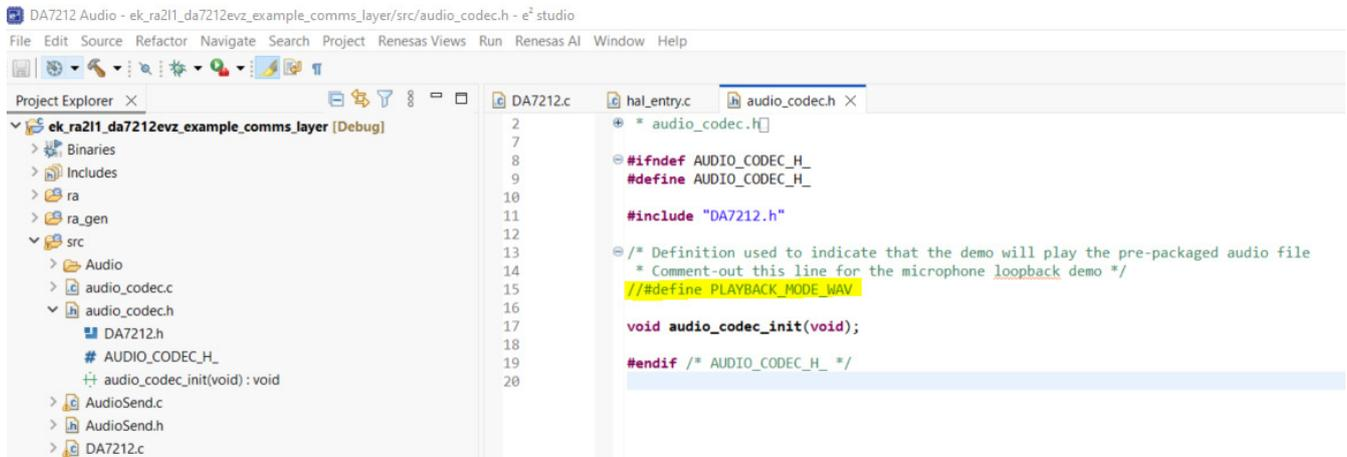

Figure 23. Sample Code audio\_codec.h File
2. Open the sample code project in e2 studio. Go to the **audio\_codec.h** file and comment out the line **//#define PLAYBACK\_MODE\_WAV** (see Figure 23).